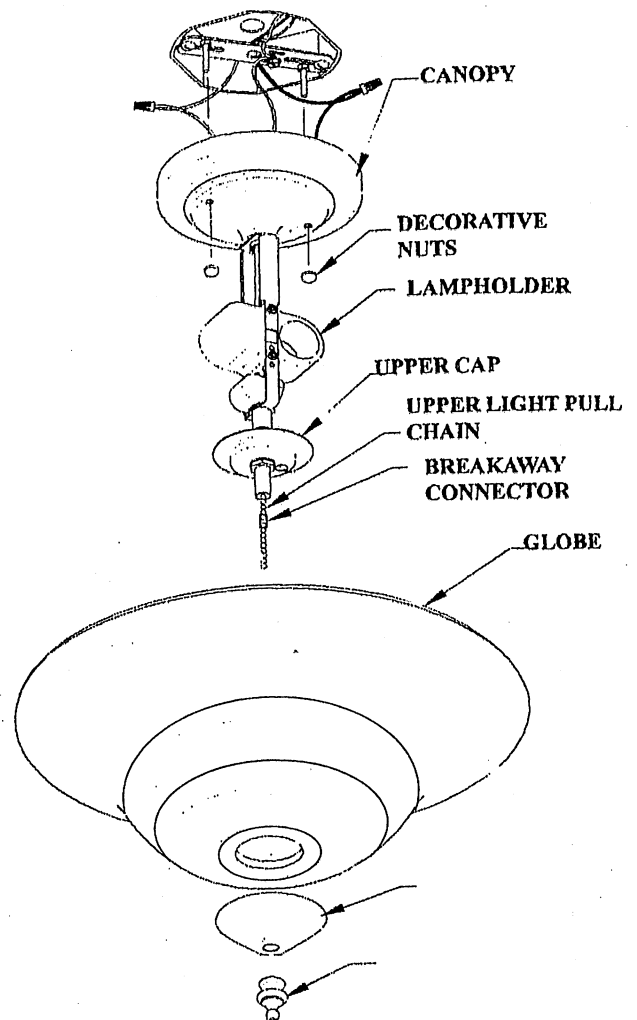

FIGURE 3
**NOTE:** Refer to Figure 3 for the steps below.
**NOTE:** Refer to Figures 3 and 4 for the steps below.
3. Locate and install the fan mounting plate over the pipe nipple as shown in Figure 3.